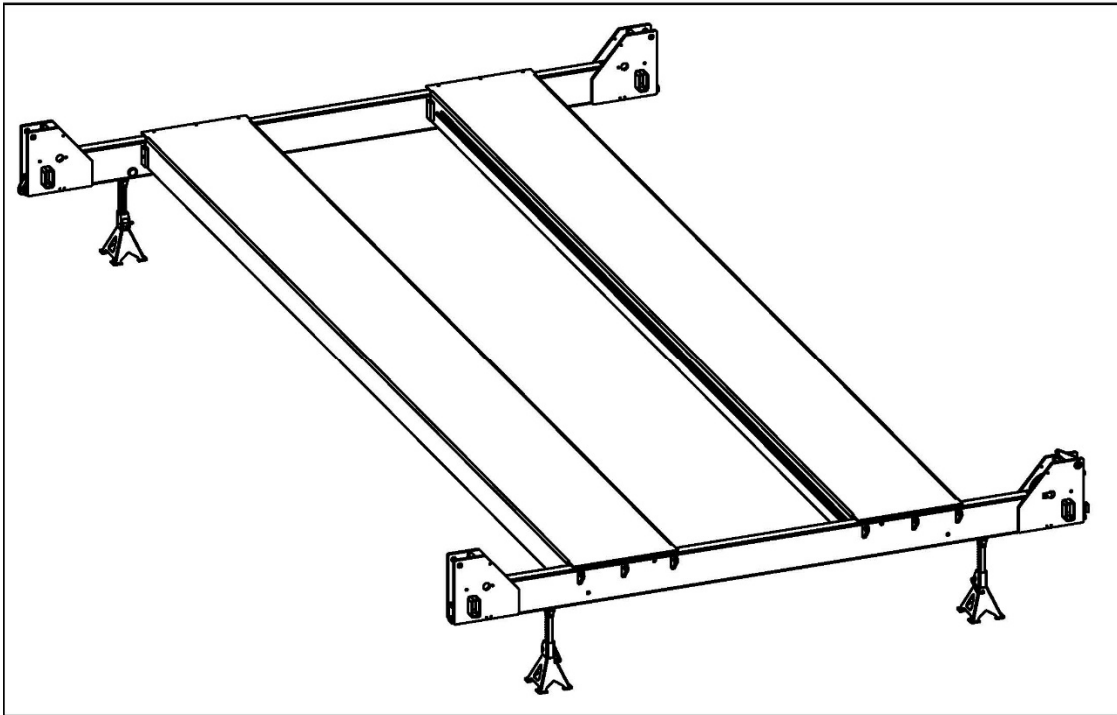

Figure 16. Jack Stand setup on Crossmembers
- Using floor jack(s) and/or engine hoist(s), move the (4) jack stands from under the left side deck to each corner on the crossmember. **Figure 16**